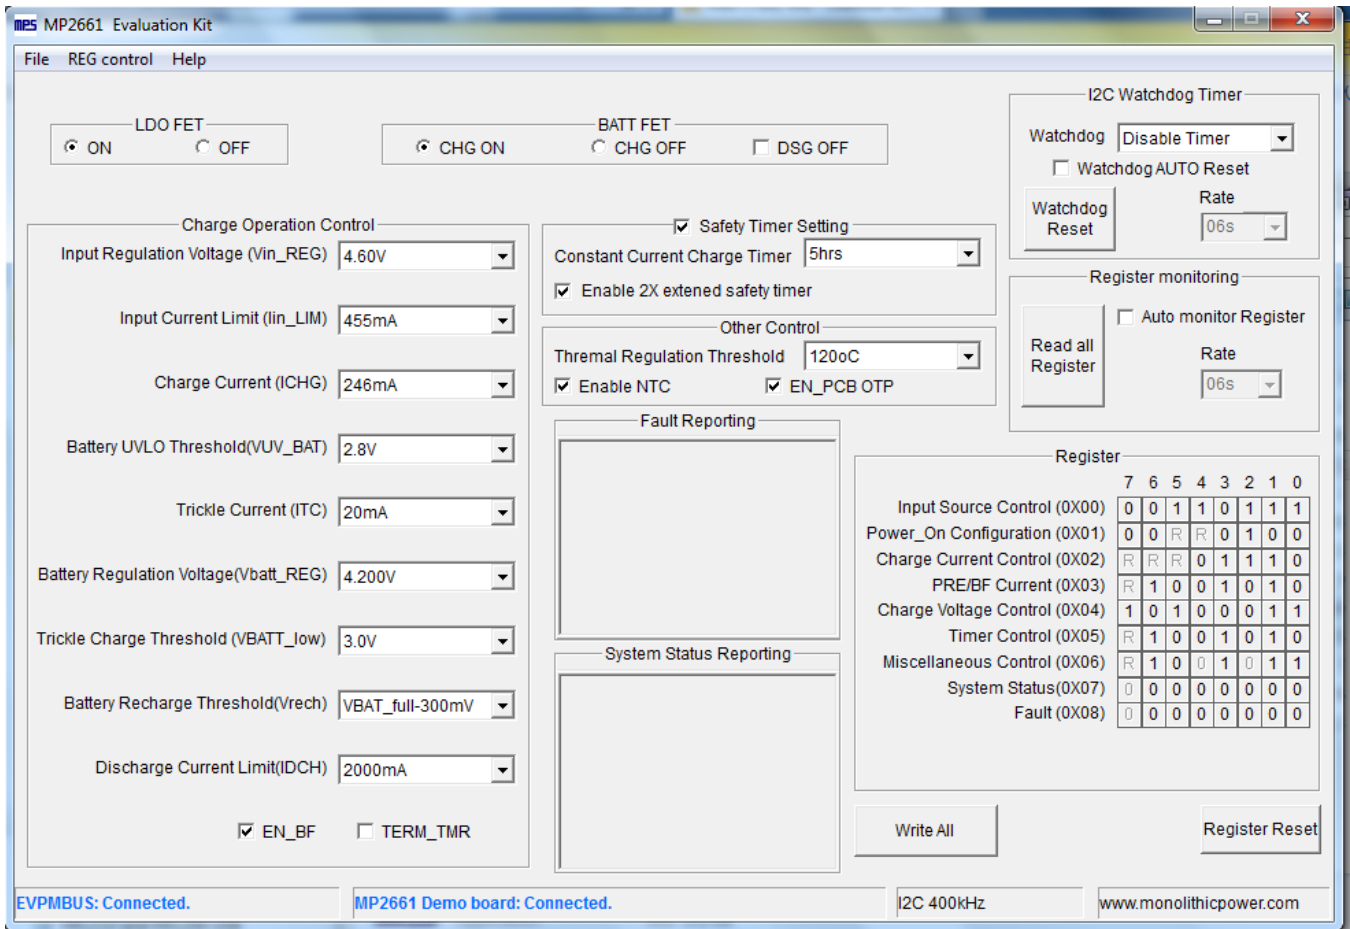

Figure6 MP2661evaluation software
5) Turn on the computer. Launch the MP2661 evaluation software. The main window of the software is shown in Figure 6.